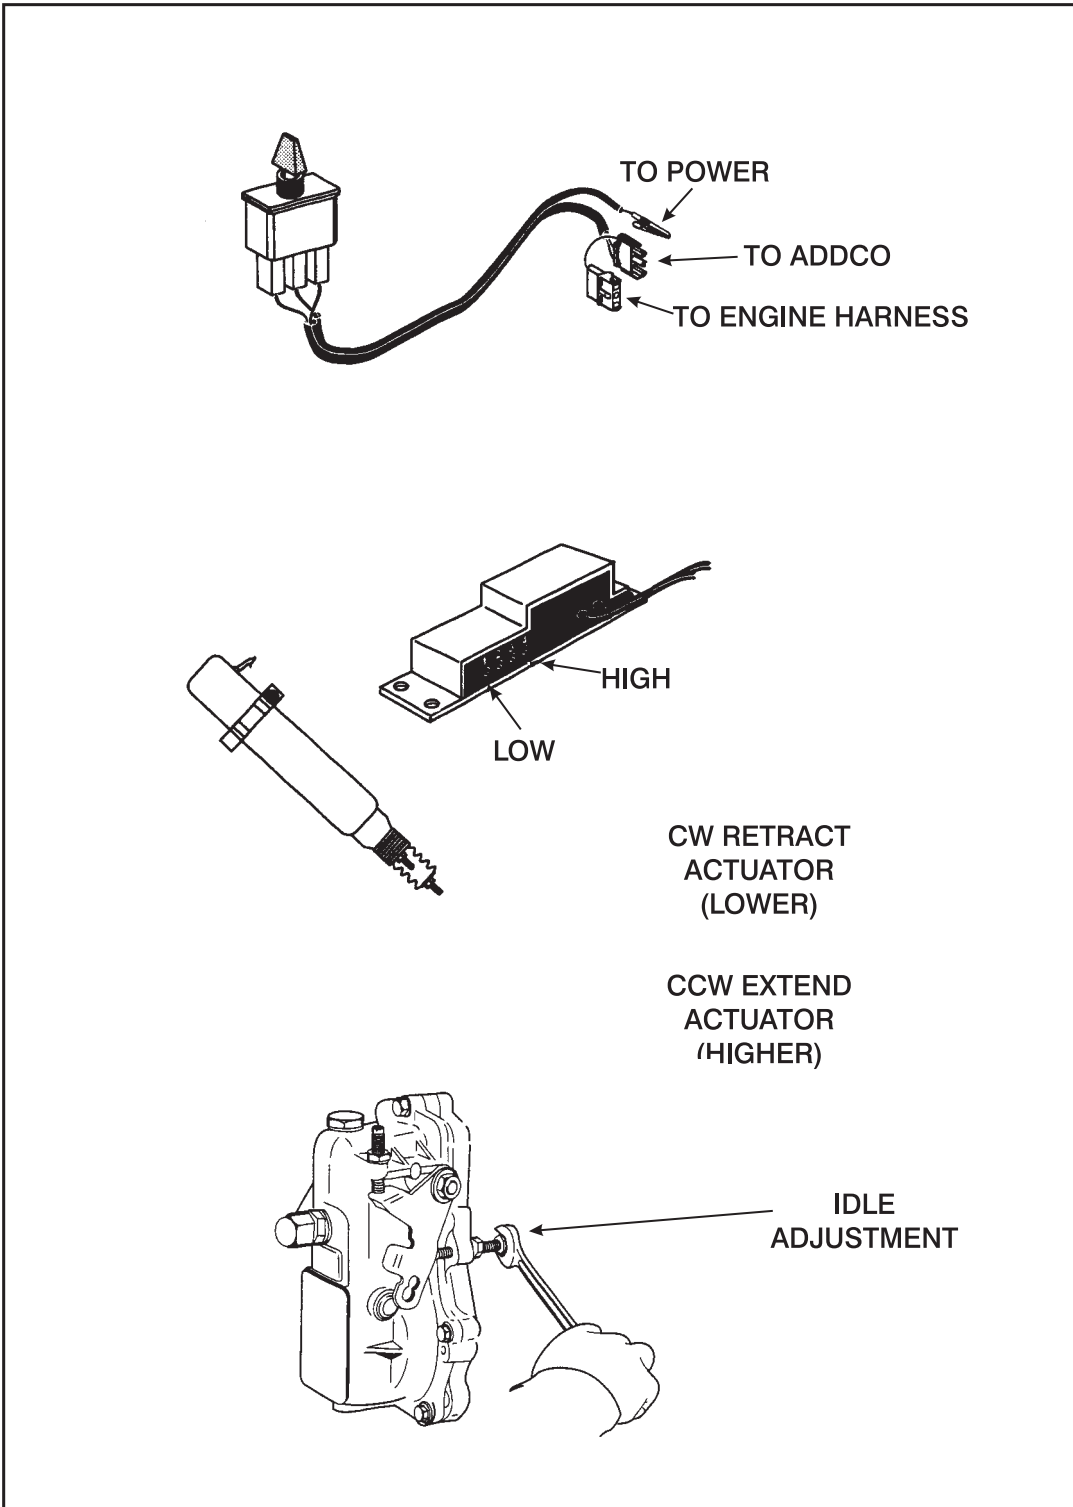

Figure 2-22. ADDCO Adjustments (Diesel Engine)
2. Disconnect the wire harness from the ADDCO throttle and install JLG wire harness #4921850 to the ADDCO and the engine harness, See Figure 2-22., ADDCO Adjustments (Diesel Engine). Start the engine and allow it to come up to operating temper-